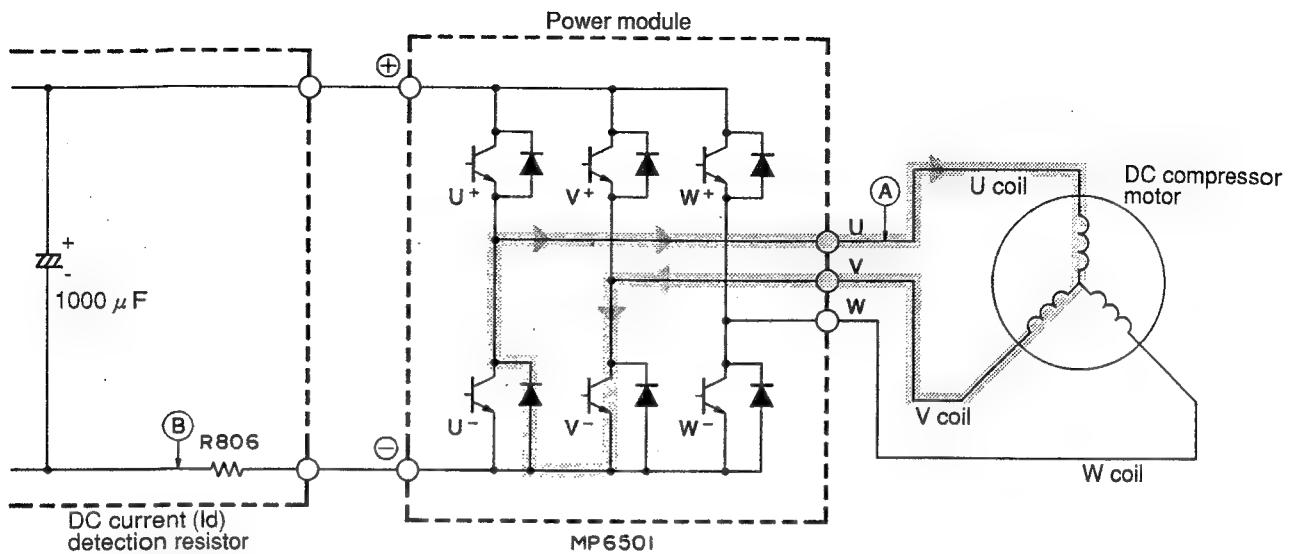

Fig. 3-4 Power module circuit (U+ is ON, V- is ON)
* At point F: U⁺ is chopped (OFF), V is ON (circuit in Fig. 3-4)]
- When U⁺ transistor is OFF: (by inductance of motor coil) U coil → V coil → V transistor → Return diode → Point ⑧ (Fig. 3-4)